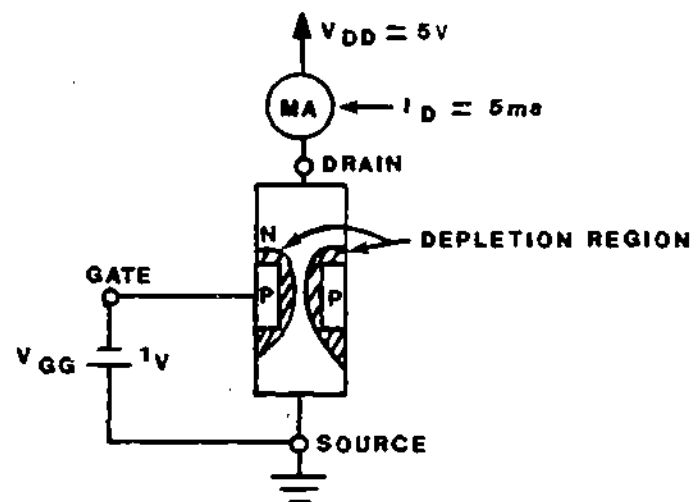

Figure 7
8. You have learned that there is a small current flow through a JFET with zero gate bias. Let's apply a small negative voltage to the gate of the JFET shown in Figure 7, and see what happens.
Recall from your study of varactor diodes that a reverse bias condition causes a depletion region around the PN junction. The same thing happens in JFETs. In Figure 7, you can see a depletion region in the channel which is void of current carriers. The depletion region has the same effect as reducing the cross-sectional area of the bar material. This reduced area increases the JFET source-to-drain resistance.